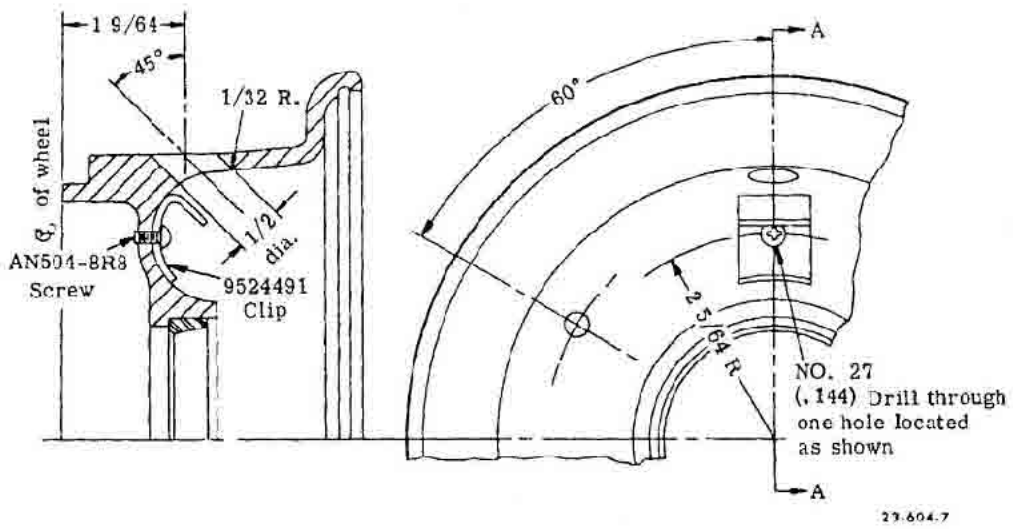

Figure 2-10. Wheel Conversion
(Figure 2-10)
- Drill a 1/2 inch diameter hole, (see figure 2-10), in both outboard wheel halves of the main wheels and the left wheel half of the nose wheel.
- Drill a No. 27 (.144 inch) hole, (See Figure 2-10), and install a clip (P/N 9524491) with an AN504-8R8 self-tapping screw.